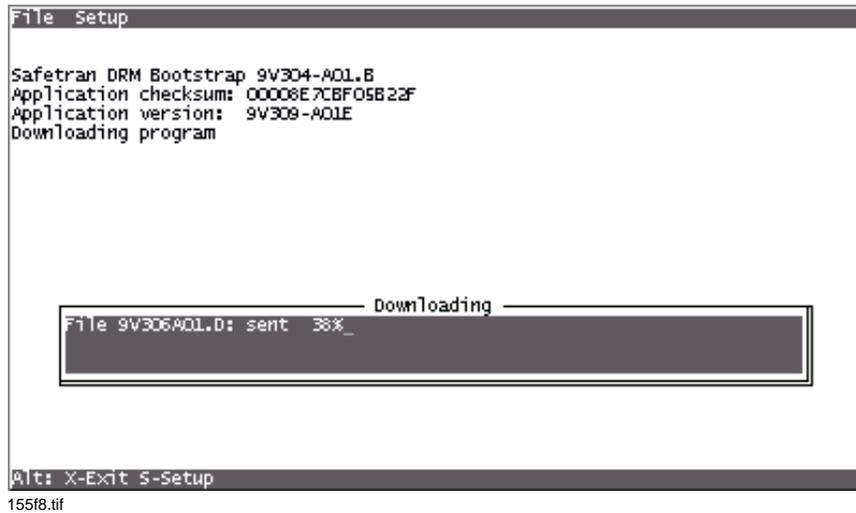

Figure 8 Setup Program Download Window
Step 12.2 Continue to hold the **CLEAR/OFF/PRINT** toggle switch in the **CLEAR** position until a **downloading** window appears briefly within the Setup screen (see figure 8).